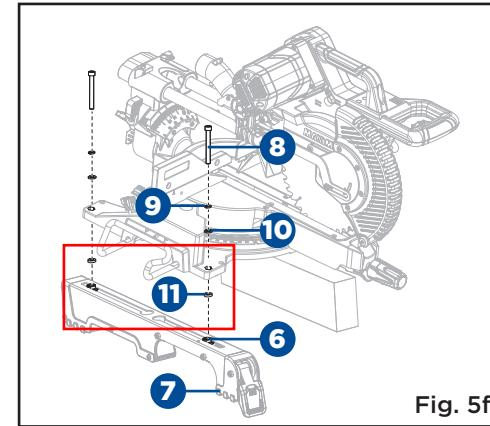

Fig. 5f
- Place a saw mounting bracket (7) underneath the raised side of saw, aligning the mounting holes on the mitre saw base with the nut (6) inside the top of the bracket. Feed a hex bolt M6 x 55 mm (8) down through a spring washer 6 (9), a flat washer 6 (10), a plastic washer (11), into the nut (6) inside the top of the bracket and a mounting hole in the saw. Secure in place. Repeat with the other end of the same bracket. (Fig. 5f)